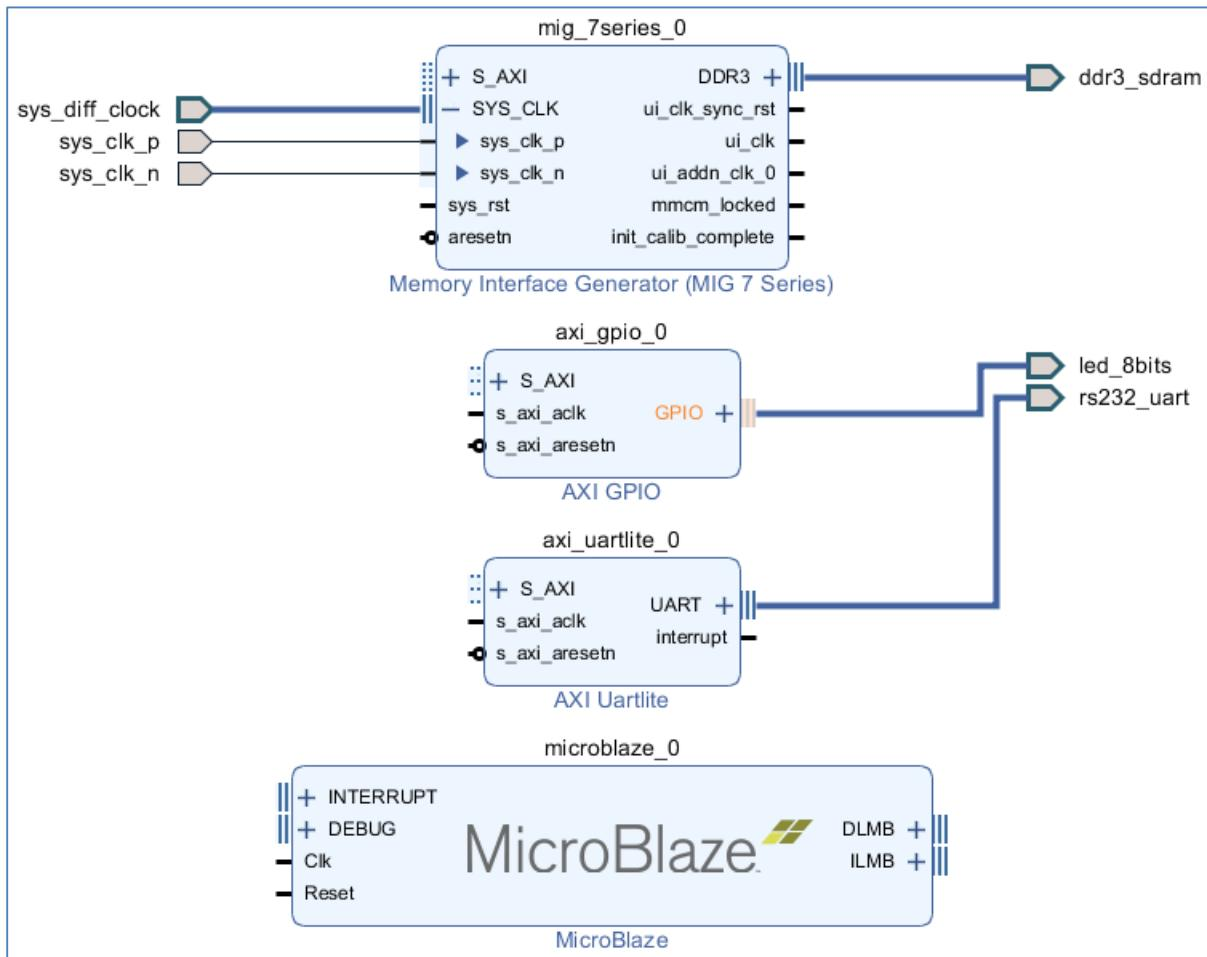

Figure 90: Block Design After Connecting the rs232_uart and the led_8bits Interfaces
9. The block design now should look like Figure 90.